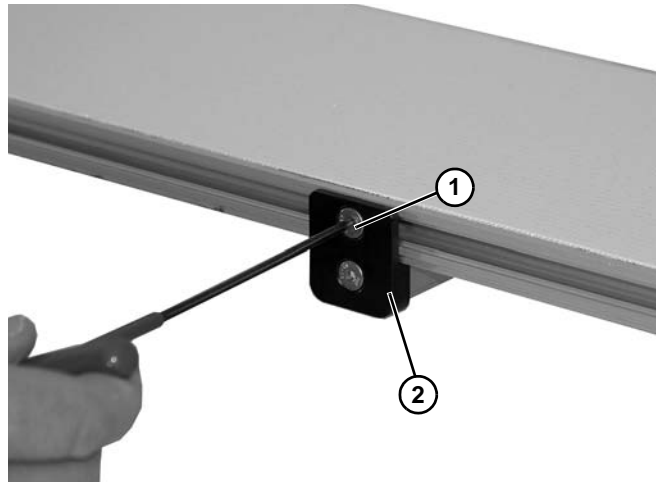

Figure 19
6. Remove screw (**Figure 19, item 1**) on each side of conveyor.
7. Lower return roller assembly (**Figure 19, item 2**) from conveyor frame.